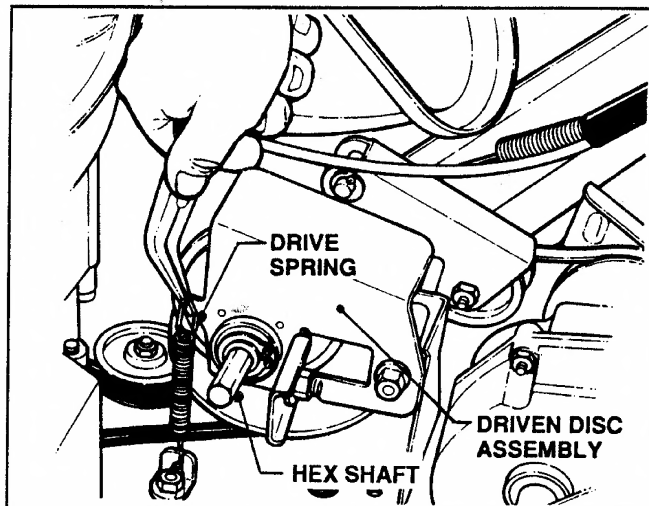
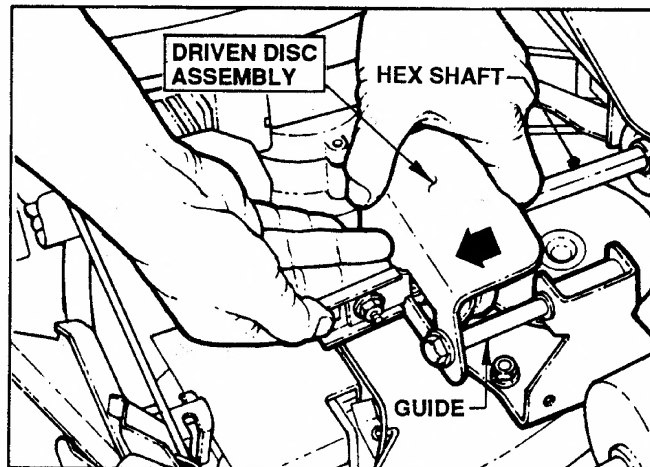

FIGURE 2
FIGURE 3
STEP 2: Unhook drive spring as shown in Figure 2 and remove the driven disc assembly by sliding off hex shaft. See Figure 3.